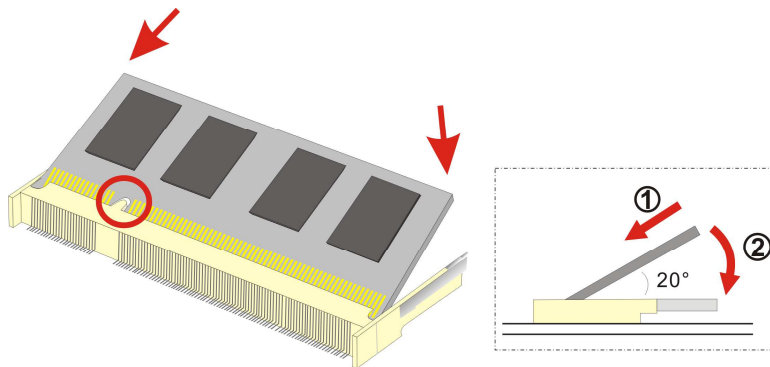

Figure 4-1: SO-DIMM Module Installation
- Step 5:** Install the new SO-DIMM module by pushing it into the socket at an angle (Figure 4-1).
- Step 6:** Gently push the rear of the SO-DIMM module down (Figure 4-1). The spring retainer clips clip into place and secure the SO-DIMM module in the socket.